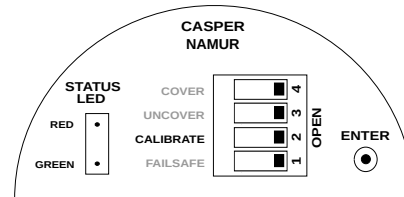

Figure 55: Saving Calibration
- Open the housing cover and set the CALIBRATE switch back to OPEN position as shown in Figure 55.